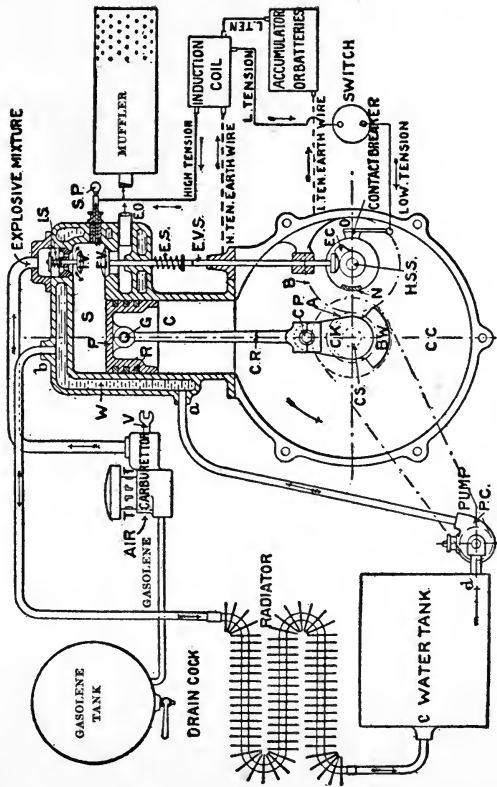

Fig. 1.
The Gasolene Engine System is first dealt with, and a careful examination of Fig. 1, with the assistance of the accompanying text, should enable the reader to understand the relationship and interdependence of its various parts; these parts being further dealt with in separate articles, not the least important of which is No. 12, on the Float-Feed Carburettor, which is explained with the assistance of Fig. 6, specially devised to show, on a single drawing, the important features of the best-known carburettors, an expedient the author has found very useful for educational purposes.
tion of the Gasolene Motor, and to facilitate this the author has made a diagrammatic sketch (Fig. 1) of what may be called the *complete system*, which shows the engine in relation to the subsidiary elements of the complete motor. Obviously, the component parts are arranged in such a way, in relation to one another, as to show at a glance their interdependence, and enable the beginner to get a grasp of the principles which govern the working of the machine; this means that all the parts must be arranged in the same plane, and some of them made to appear larger than they would be if they were drawn to scale. In other words, we have a distorted sketch, showing the elements spread out for ready inspection;¹ and a careful examination of the figure will enable the reader to become familiar with the technical names of the most important elements, details, etc., which will greatly assist him in understanding the description of the motor which is to follow.
REFERENCE NOTES FOR FIG. 1.
5. As has been explained, the motor, although an element of the car, is a complete heat engine, consisting of a number of elements ingeniously arranged in relation to one another to form a whole working machine, in which the potential energy of the gasolene is converted into moving energy at the crank-shaft (C.S., Fig. 1). All gasolene engines in general use are reciprocating ones, that is to say, the straight line motion of the piston (P., Fig. 1) is converted into the circular motion of the crank-shaft by means of a connecting-rod (C.R., Fig. 1) and crank (CK., Fig. 1). Now, every single cylinder reciprocating engine must be fitted with a fly-wheel,¹ fixed to the crank-shaft, to carry the crank over the dead-center;² but in the gas engine this wheel has also another function to perform, which can better be explained after we have made clear what goes on in the cylinder during the engine's complete cycle.
³ This shaft is shown in Fig. 1. It is connected with the crank-shaft by a system of tooth wheels, which make the cam-shaft rotate once, whilst the motor-shaft rotates twice; thus the exhaust valve opens once during every two rotations of the crank-shaft.